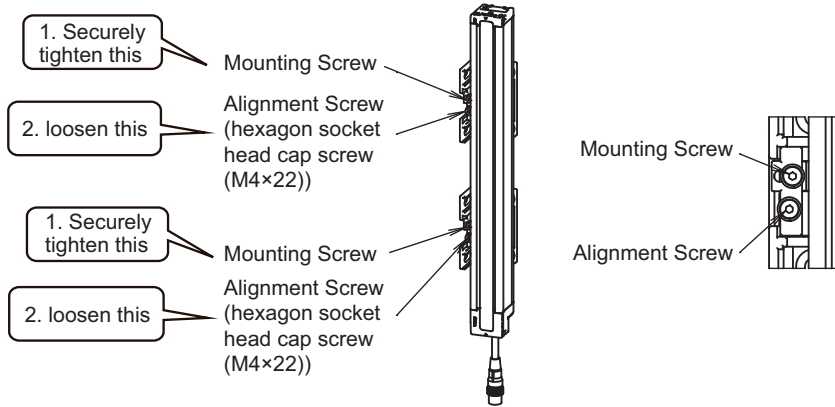

Fig. 3
- Securely tighten the Mounting Screws to fix the Free-Location Bracket to the F3SG-R housing. The recommended torque to tighten the Mounting Screws is 3.0 N•m. Then loosen the Alignment Screws (hexagon socket head cap screws (M4×22)). (Fig. 3)